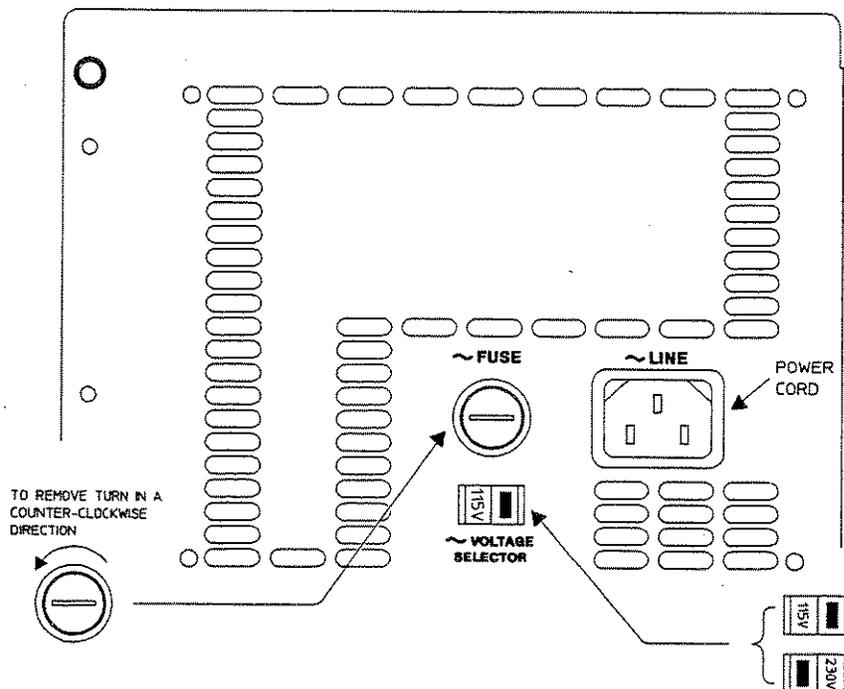

Figure 2-1. Voltage Selection and Fuse Replacement
The line-voltage selector switch is set at the factory to match the most commonly used line voltage of the country of destination; the appropriate fuse is also installed. To check or change either the line-voltage selector switch or the fuse, see figure 2-1, table 2-1, and the following procedures.
2. Slide the line voltage selector switch (see figure 2-1) to the proper voltage.
2. Using a small screw driver, turn the fuse holder cap counter-clockwise and remove when the fuse cap is free from the housing (see figure 2-1).